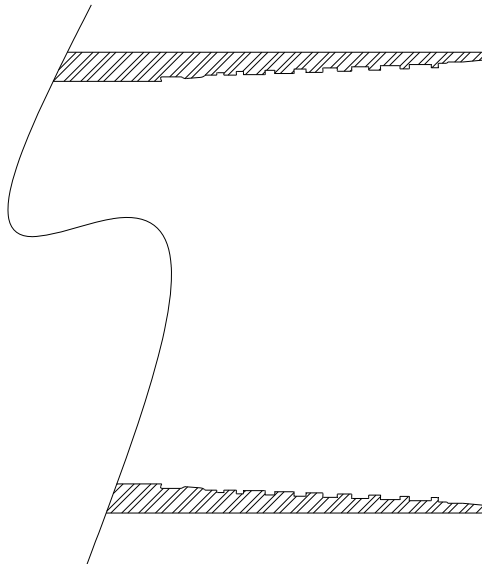
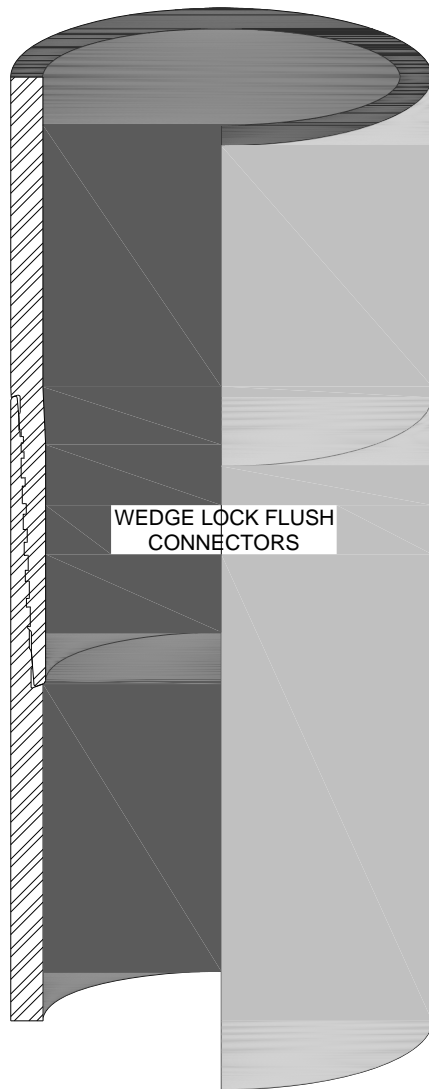

Fig. No. 1: Box Connector
Fig. No. 2: Wedge Lock Flush Connectors
**BOX CONNECTOR:** A female thread connector or internally threaded end of a pipe or accessory. (See Figure No. 1)
**CLUSTER:** Five (5) or more individual imperfection indications in an area 0.250" by 0.250".
**CONNECTION:** The mated male and female connectors of a particular thread design. (See Figure No. 2).
**CONTINUITY OF SEAL SURFACE:** The phonograph seal surface is considered continuous if there are no imperfections that are longitudinally longer than 1/8". No more than two (2) imperfections of maximum or near maximum length may be closer than 0.250" circumferentially or be aligned in such a manner that a longitudinal or diagonal leak path may be created.